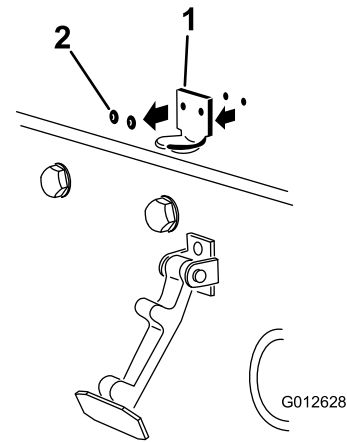

Figure 34
2. Remove the 2 rivets securing the hood-latch bracket to the hood (Figure 34).
**Note:** The lock bracket must be against the hood (Figure 34).